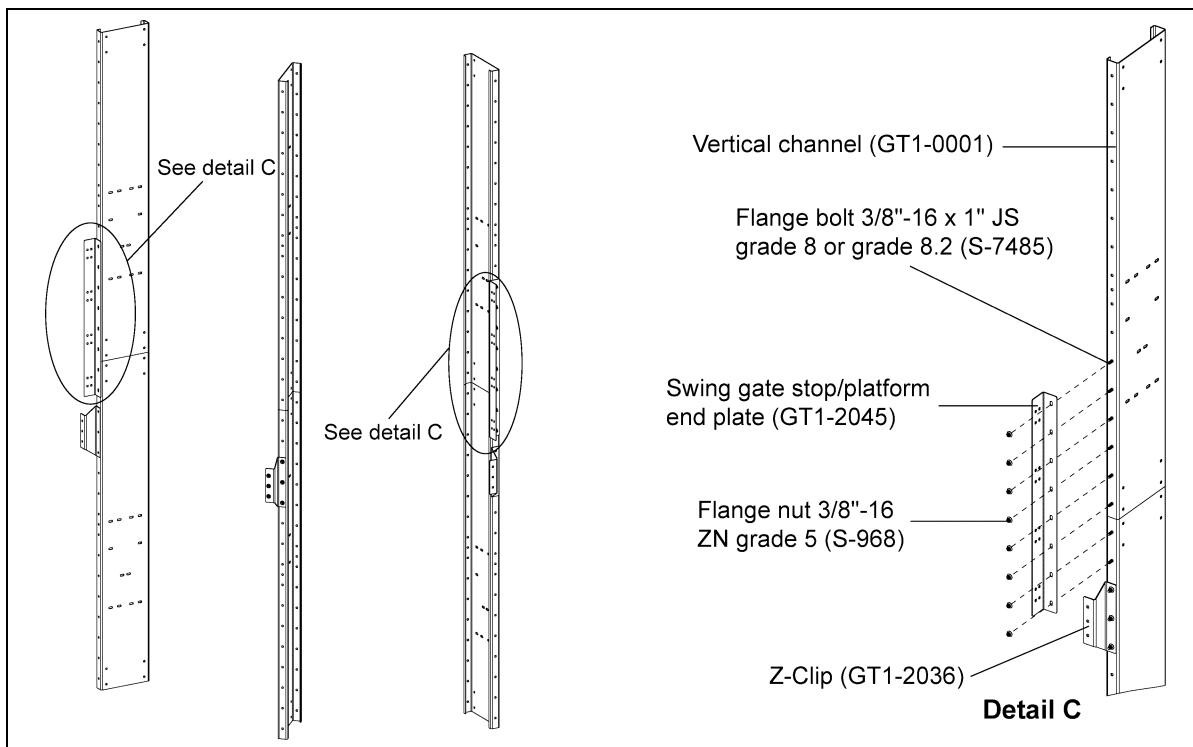
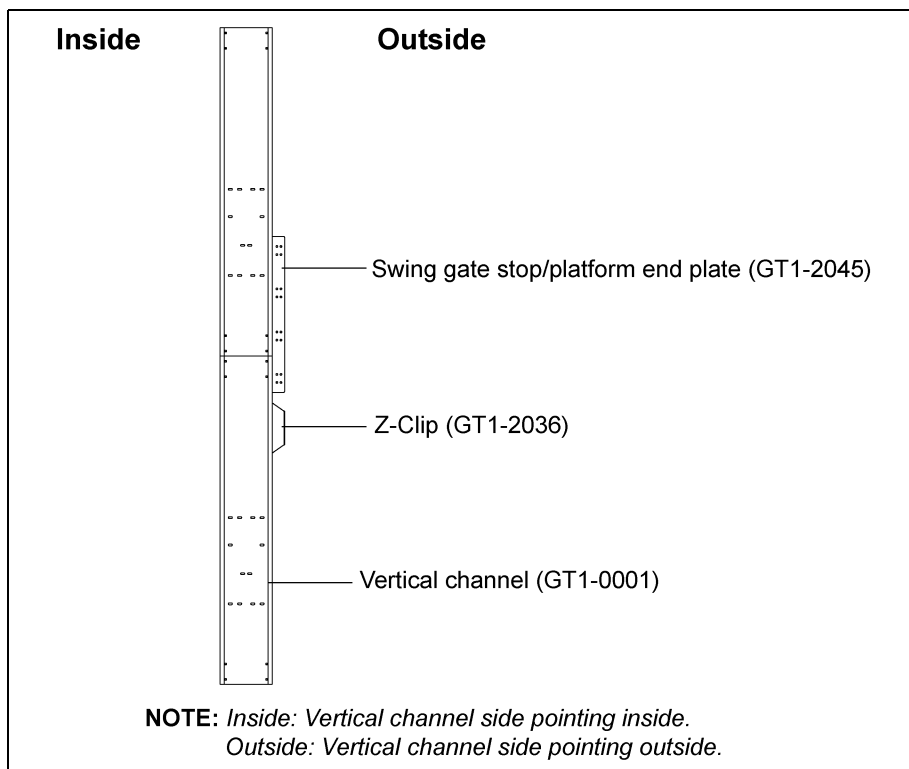

Figure 6E Offset Swing Gate Stop Installation
Figure 6F
1. Install swing gate stops (GT1-2045) to the safety gate opening vertical channel and catwalk end vertical channel on offset catwalk as wall sheets are installed using 3/8"-16 x 1" JS grade 8 or grade 8.2 bolts (S-7485) and 3/8"-16 grade 5 nuts (S-968). (See Figure 6E and Figure 6F.)